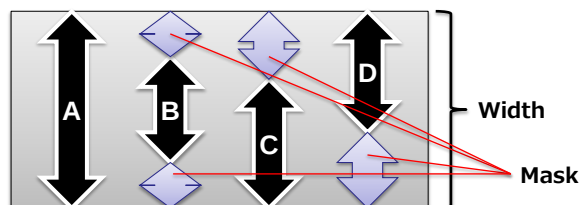

Figure 12 Partial Pipeline Activation
- Multiple required buffers can be consolidated into a single buffer. To ensure that the Index of the first logical channel does not advance beyond the Index of the last logical channel plus the transfer size or buffer size, all Destination links should be configured to reference the last logical channel, as shown in Figure 12.